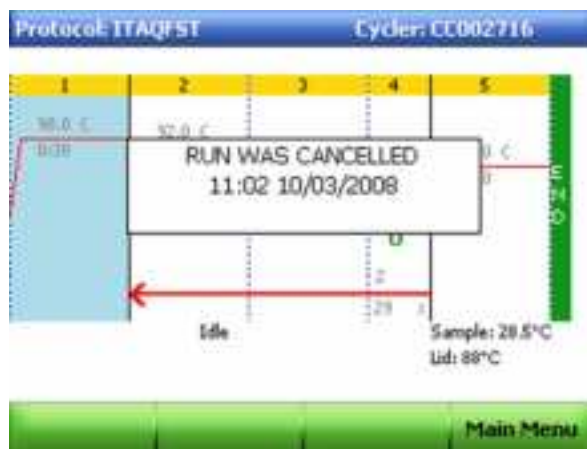

Figure 65. The protocol status screen is open and the run is cancelled.
2. Select **Cancel Run** to stop a single block (Figure 65).